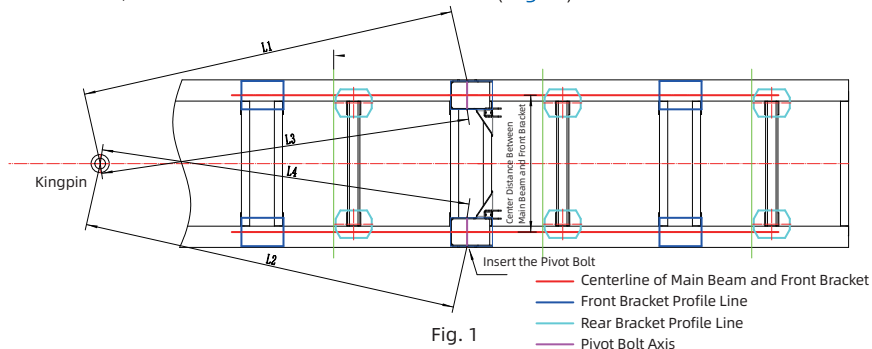

Fig. 1
(1) With the frame inverted, draw reference lines for positioning the air suspension front and rear brackets on the frame per the vehicle's design dimensions (ensure equal diagonals), *as shown in Fig. 1*.
(2) Place the 2nd axle front bracket, measure the AB line to ensure  $L1=L2\pm 1\text{ mm}$ ,  $L3=L4\pm 1\text{ mm}$ , and tack weld the front bracket(*Fig. 1*).